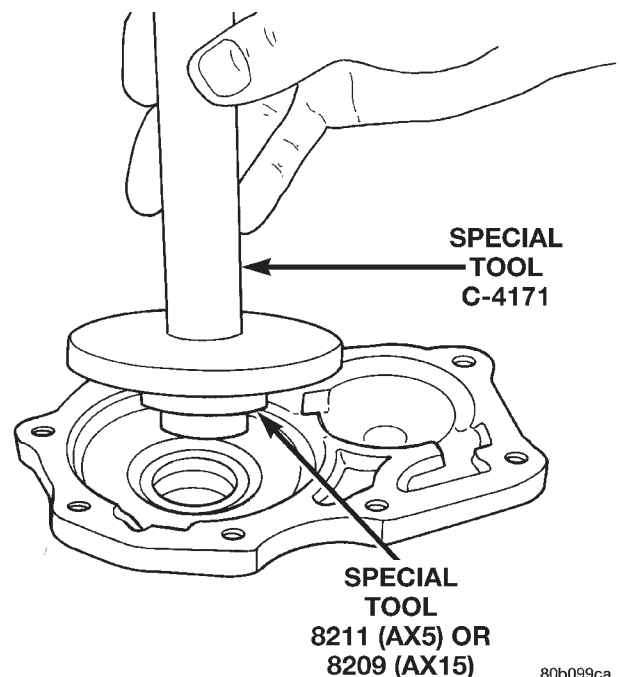

Fig. 12 Install Front Bearing Retainer Seal
- (1) Using Tool Handle C-4171 and Seal Installer 8209, install new seal in to the front bearing retainer (Fig. 12).